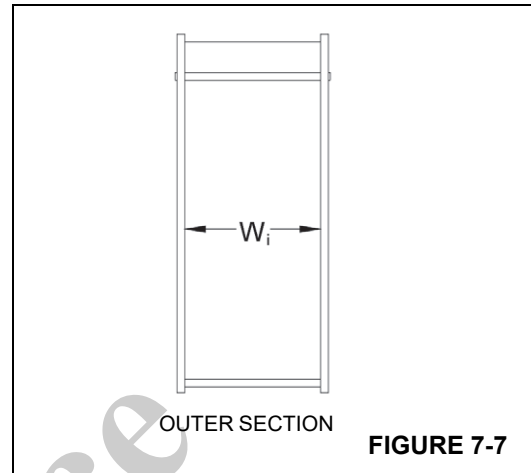
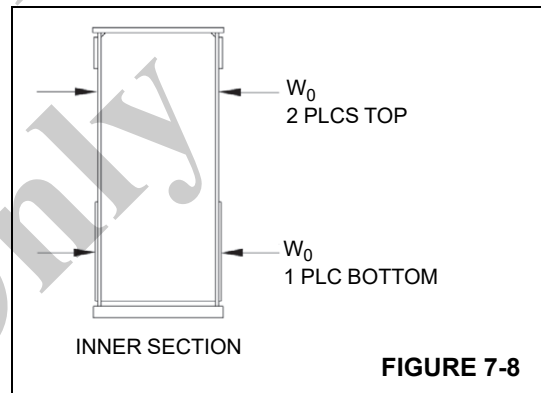

FIGURE 7-7
FIGURE 7-8
1. With a pair of inside/outside calipers, measure the inside width of the outer section outrigger (W_i , Figure 7-7) at the front pad location and three ft back from the front of
2. With the inside/outside calipers, measure the outside width of the appropriate inner section (W_o , Figure 7-8) at the rear of the section and three ft from the rear. Record the largest measurement.
4. Subtract the largest outside width (W_o , Figure 7-8) of the inner section and the thickness of the two pads (t_{wp} , Figure 7-9) from the inside width of the outer section (W_i , Figure 7-7). Add shims as required (each shim is 0.03 or 0.06 thick) to tighten the pads so that there is 0.00 - 0.06 clearance between the widest part of the inner outrigger section and the most narrow part of the outer outrigger